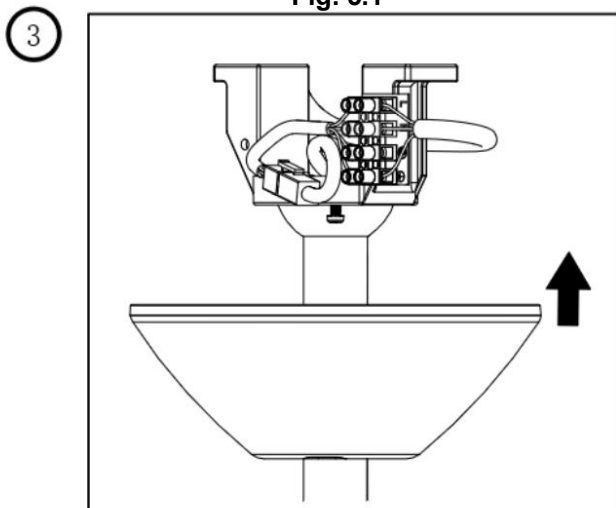

Fig. 5.3
3. Push the canopy up to cover the hanger and wiring parts (Fig.5.3)